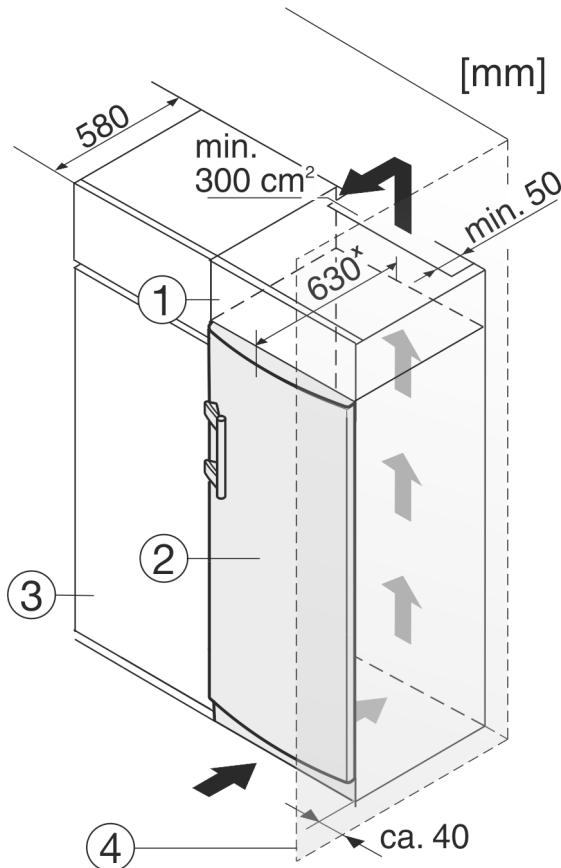

Fig. 9
- (1) Stack cabinet
- (2) Appliance
- (3) Kitchen cabinet
- (4) Wall
The appliance can be inserted into a row of kitchen units. To match the appliance Fig. 9 (2) to the height of the row of units, a suitable stack cabinet Fig. 9 (1) can be fitted above the appliance.
When installing with kitchen units (max. depth 580 mm), the appliance can be positioned directly next to the kitchen cabinet Fig. 9 (3). The appliance will project by 34 mm* at the sides and 50 mm* in the centre of the appliance in relation to the kitchen cabinet front.
If the appliance is installed with the hinges next to a wall Fig. 9 (4), the distance between appliance and wall has to be at least 40 mm. This corresponds to the projection of the handle when the door is open.